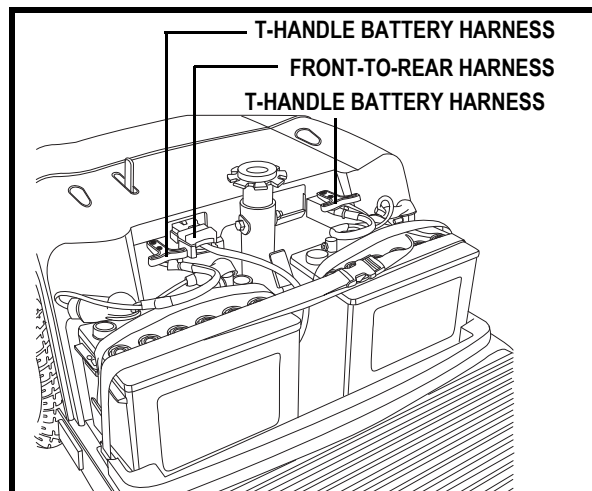

Figure 14. Harness Connections
5. Unplug both T-handle battery harnesses. See figure 14.
7. Unplug the front-to-rear harness. See figure 14.